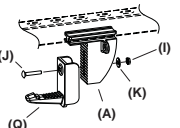

Figure 4
Secure the receiving pin (Q) onto the sliding mount (A) using one 1/4-20 carriage bolt (J), one 0.75" O.D. washer (K), and one kep nut (I). Do not completely tighten, allow for pin adjustment. (See Figure 4)